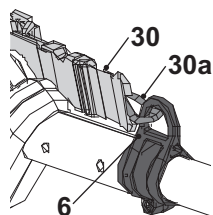

Fig. 22
4. Lock the harness (30) onto the loop (6) by the securing clip (30a) (Fig. 22).